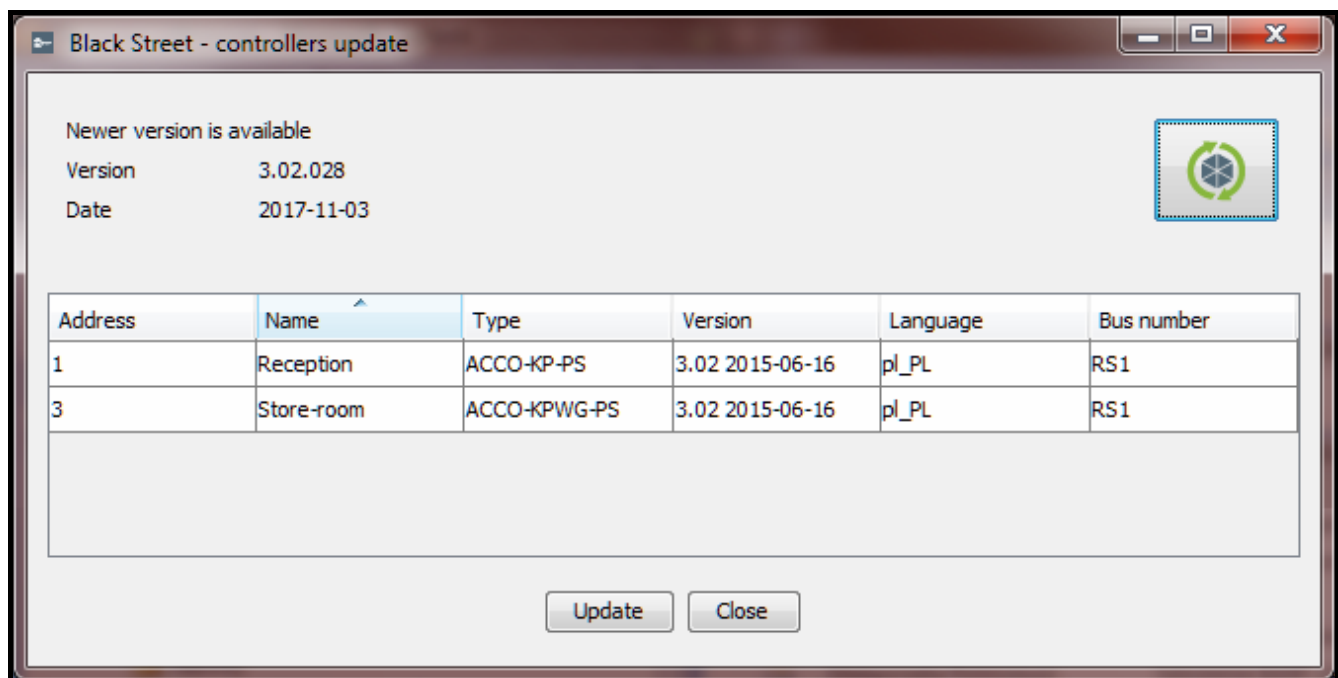

Fig. 21. Controller firmware update window.
3. A window will open with the current firmware version of all selected devices, as well as information on the new available version (see Fig. 21).